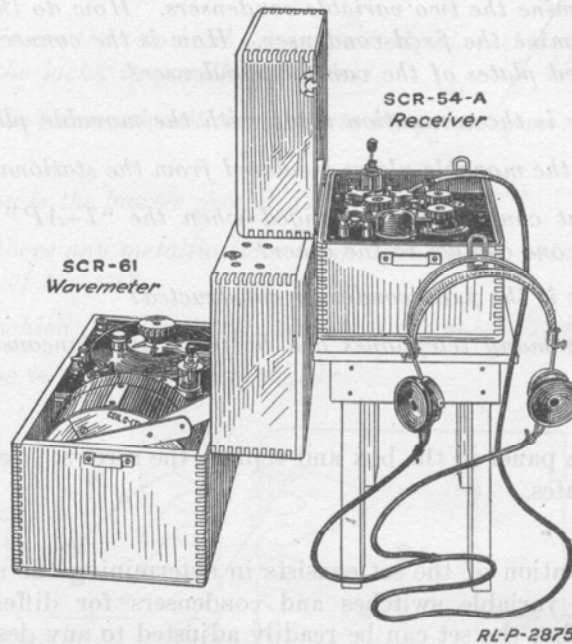

Fig. 40.—Method of coupling the SCR-61 wave meter to the secondary coil of the SCR-54-A receiver.
3. Put the wave meter with its coil as close to the back of the set box as possible. (See Figs. 40 and 41.) Set the "T-AP" switch to "T" (abbreviation for "tuned"). Adjust the detector of the set by means of the buzzer test. Turn the coupling knob until the indicator points to the 90° or maximum mark, and set the secondary inductance on tap 15. Adjust the wave meter to emit a 200-meter wave. Rotate the secondary variable condenser until the signal is heard. If the signal can not be picked up with the secondary inductance switch on tap 15, advance the switch to tap 30 or higher. If the signal comes in too loudly over a large part of the condenser scale, loosen the coupling between the wave meter and set box by moving the wave meter away from the set box. It should be moved